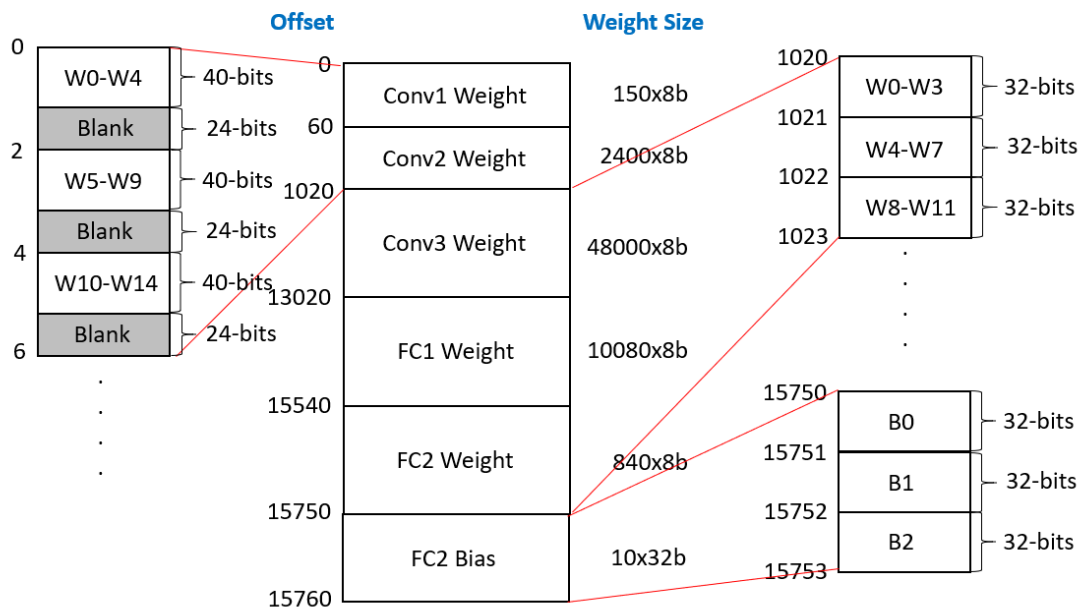

Figure 1: Layout of weight SRAM.
3. Figure 1 shows the layout of the weight SRAM. In **Conv1 and Conv2 weight layers**, we only **store five 8-bit weights in every two addresses**, which is possible to **access five weights in one clock cycle**. Since Conv3 layer can be treated as a fully-connection layer, for **Conv3, FC1, and FC2 weight layers**, we store **four 8-bit weights in each address**. For **FC2 biases**, **one 32-bit bias is stored in every address**.
5. You should use the **parameter.zip** (with image, weight, bias, quantization scale, and golden data) generated and submitted in Homework 1 to validate your design, which should be pre-processed to match the format in Figures 1 and 2 (i.e., you have to write your own tool to convert the format). It is recommended to understand the testbench before writing your own pre-processing code. (You may use either C++ or Python, or any programming language.) In addition, please check to-dos in testbench to replace your own scale and file name.